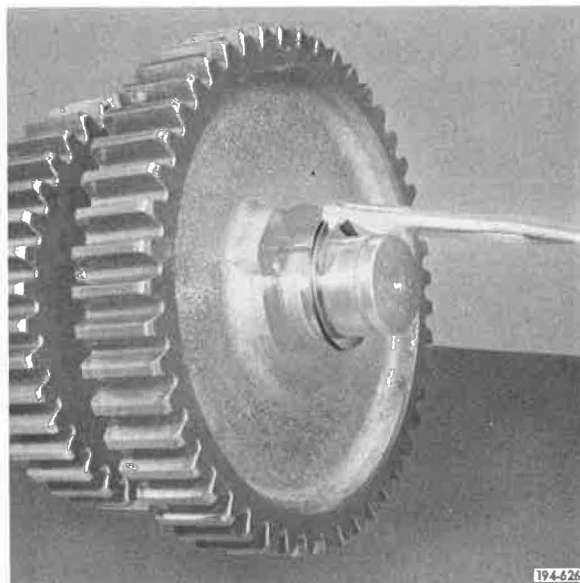

Figure 5-458. Installing Snap Ring
5. Install gear retaining snap ring, using snap ring pliers J-25445 or equivalent. See Figure 5-458.